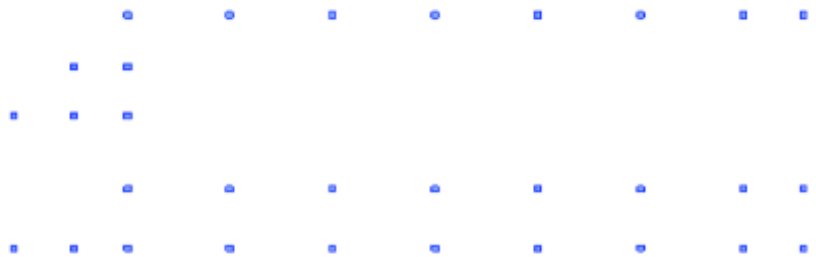

Figure 8–15
4. In the Status Bar, expand  (Temporary Hide/Isolate) and select **Hide Element**. Everything except the columns should be hidden, as shown in Figure 8–15. It is now easier to identify the locations of the footings.